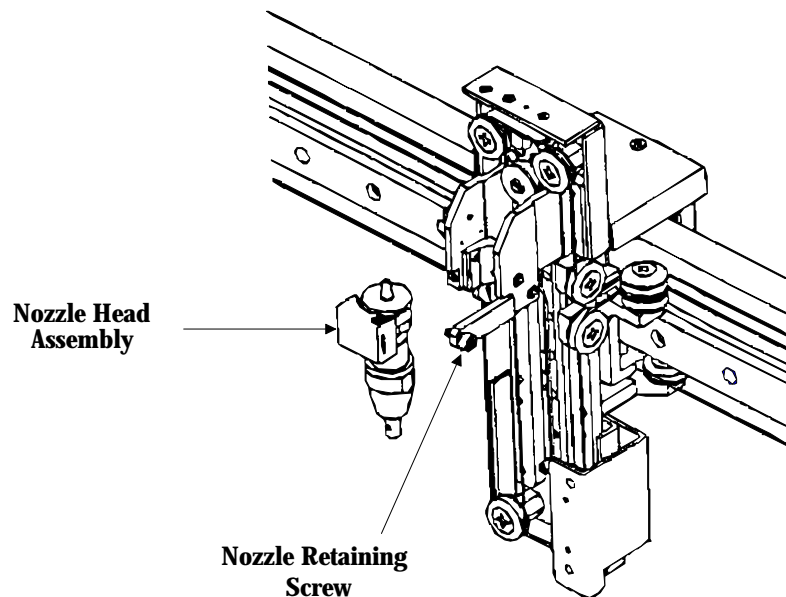

Figure 4
3. (refer to figure 4) Remove the nozzle retaining screw using a 3mm allen wrench. Remove the nozzle head assembly from the pipettor.